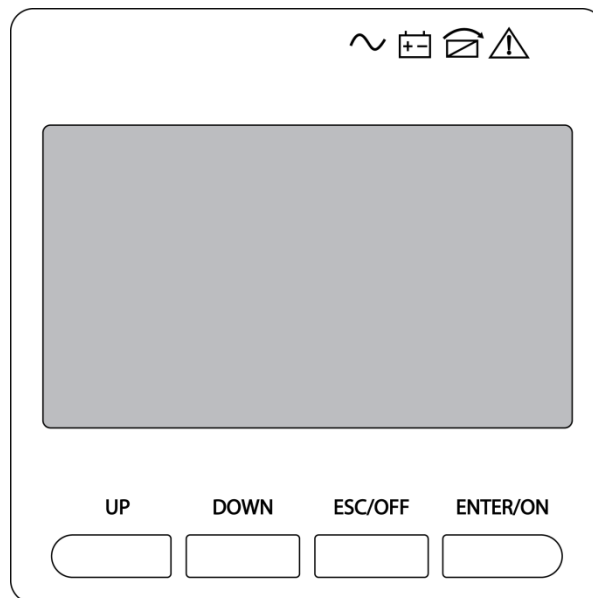

FIGURE 12 FRONT PANEL CONTROLS AND DISPLAY
THE FRONT PANEL CONTROLS AND INDICATORS ARE SHOWN IN FIGURE 12. ON RACK MOUNTED UNITS YOU ROTATE THE DISPLAY PANEL TO SUIT VERTICAL OR RACK MOUNT ORIENTATION. USING THE BUTTONS, INDICATOR ICONS AND THE MENU STRUCTURE DISPLAYED ON THE LCD PANEL YOU CAN:
3. On the front panel, press and hold **ENTER/ON** (see Figure 12 on page 18) until a beep is heard (after approximately 2 seconds).